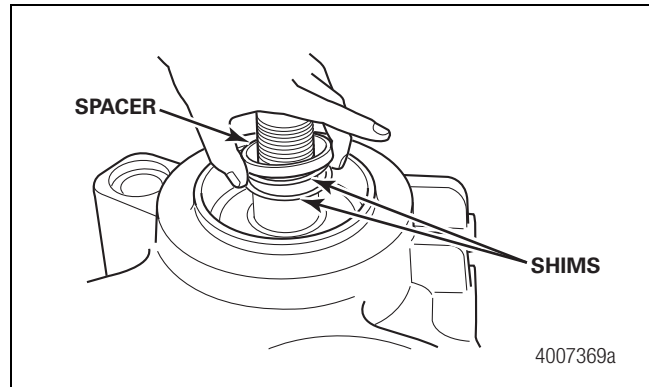

Figure 6.20
4. Install the shims and spacer over the shaft. If you are replacing the bearings, install a starting shim pack thickness of 0.036 inch (0.91 mm) or use the same thickness that was removed. Figure 6.20.